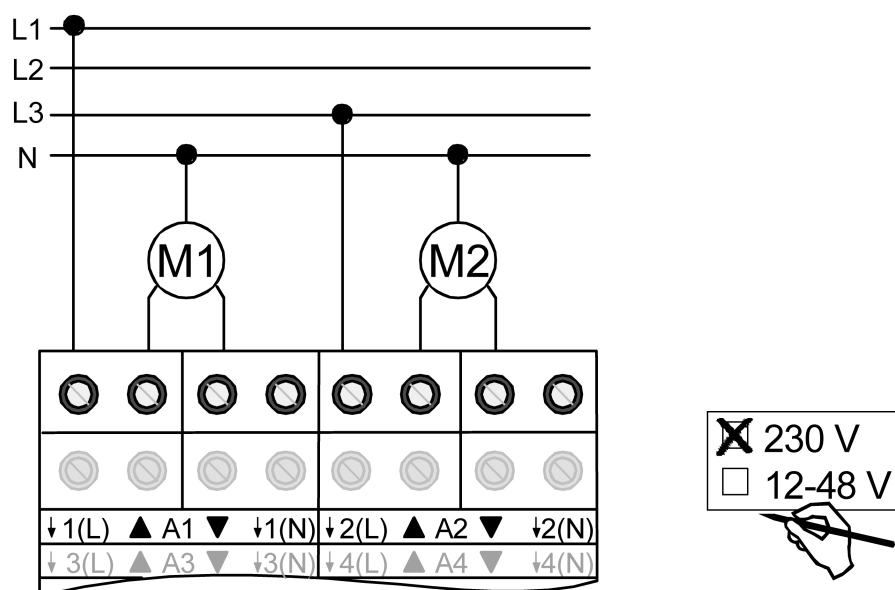

Figure 5: Electrical connection for 230 V drives
- Connect the drives as shown in the wiring example (Figure 5).
- i** In the type of supply described (Figure 5), it is not absolutely necessary to connect the N conductor to the shutter actuator. If, however, drives with high-resistance travel direction inputs (e.g. drives with electronic limit switches) are connected, then it is necessary to also connect the N conductor to the corresponding terminal of the shutter actuator. The data of the drive manufacturer should be observed.